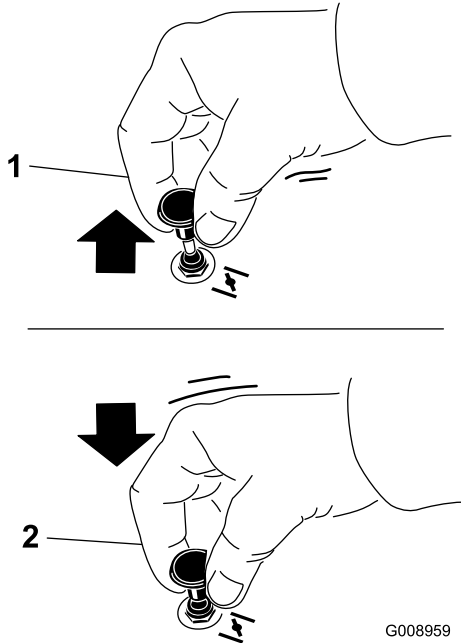

Figure 23
1. Pull up the choke knob to engage the choke before using the key switch (Figure 23).
2. Push down the choke knob to disengage the choke after the engine has started (Figure 23).